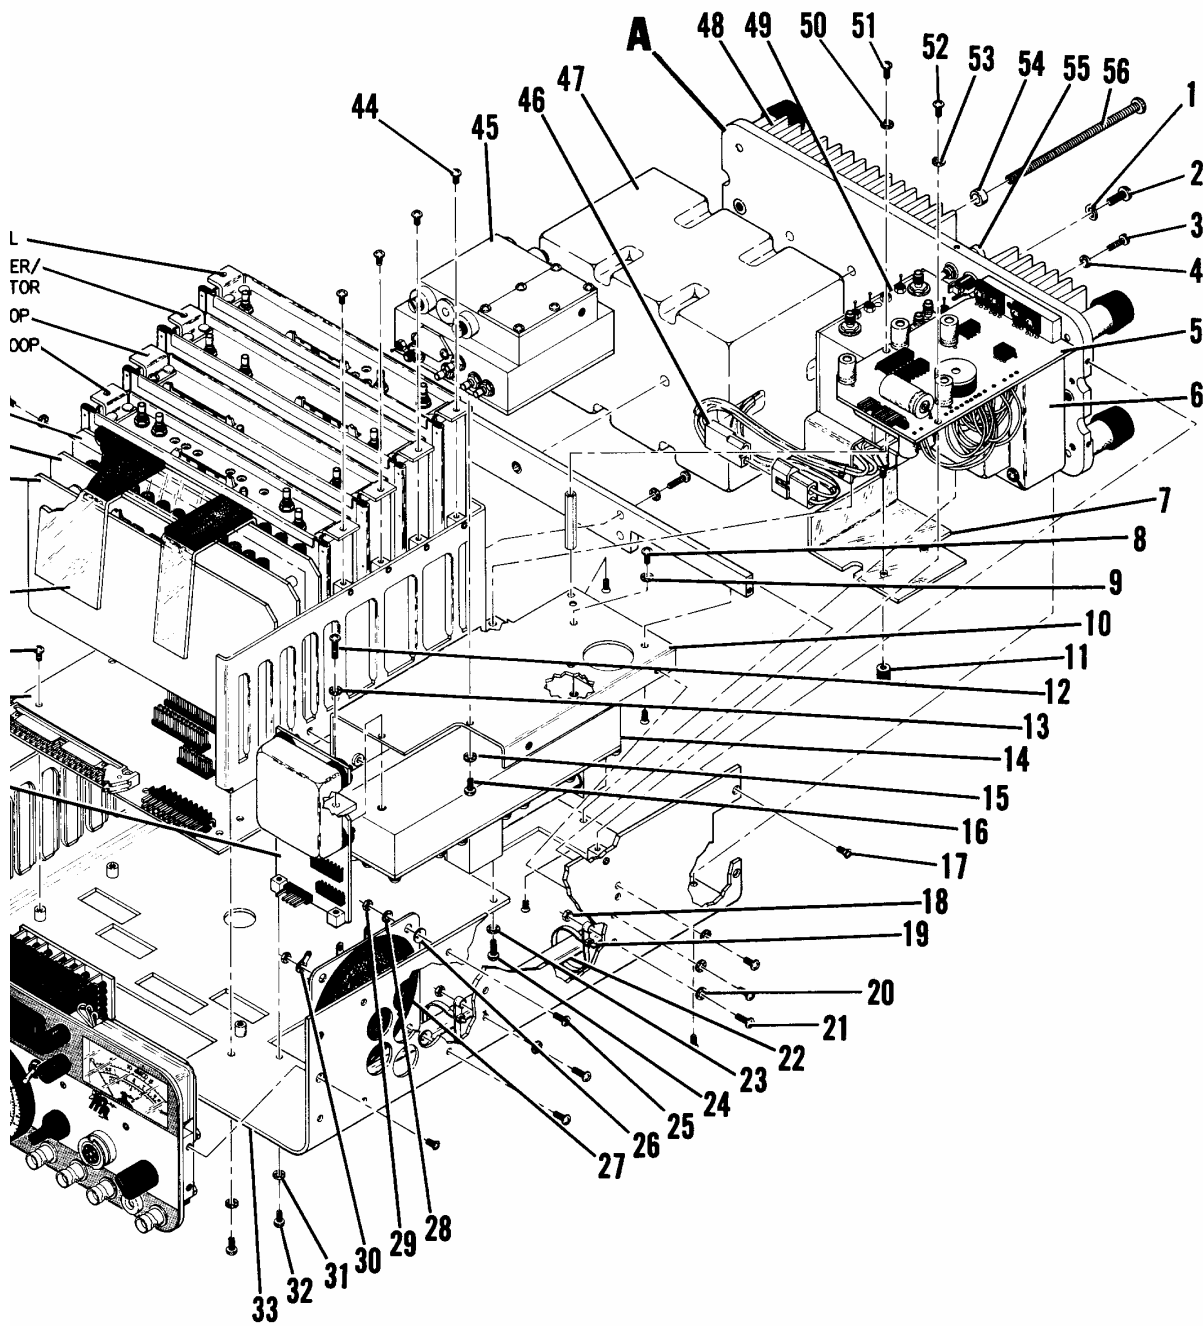

Figure 6-2 FM/AM-500A Composite Assembly
This section contains instructions that are necessary to remove and disassemble modules within the FM/AM-500A. Case removal (para. 6-2-1) is a prerequisite for all module removals. Most module removals are reflected in Figure 6-2, Composite Disassembly. However, due to the complexity of the composite, further details of module disassembly are shown on individual disassembly drawings for specific modules.
A. Removal (Figure 6-2)
A. Removal (Figure 6-2, Detail A)
1. Disconnect Wire Harness Connector and coax connector from oven oscillator (62).
2. On test sets which have the oscillator (62) mounted on a bracket (61), remove two screws (57) and lock washers (58), withdraw the oscillator and bracket from the compartment, then remove four screws (59) and lock washers (60).
3. On test sets which have the oscillator (62) mounted directly on the chassis (33), remove four screws (59) and lock washers (60), then remove the oscillator.
1. Remove two screws (32) and lock washers (31) attaching PC board assembly (38) to bottom of chassis (33).
2. Remove screw (12) and lock washer (13) attaching PC board assembly (38) to inner mounting bracket (10).
3. Withdraw PC board assembly (38) from chassis (33) and disengage wire harness plug from PC board.
4. Three flexible coax cables are permanently attached to the Frequency Standard (38). Disconnect these from High Loop Synthesizer and Digital Modules (43), and the External Standard jack (55).
1. Remove screw (3) and lock washer (4) attaching PC board assembly (5) to Rear Panel (48).
2. Remove two screws (51 and 52) and lock washers (50 and 53) attaching PC board assembly (5) to chassis (33).
3. Disengage wire harness connector from PC board (5).
1. Remove Dual VCO (14) (paragraph 6-2-13).
2. Remove screw (21), lock washer (20) and nut (18) attaching wire tie(s) (19) mounting Filter (22) to chassis (33).
3. Disconnect flexible coax cables from each end of Filter (22) and withdraw filter from chassis (33).
2. Remove 1120 MHz Low Pass Filter (22) (paragraph 6-2-6).
3. Tag and unsolder wires from two terminals on Speaker (27).
4. Remove four nuts (29), three lock washers (28), one terminal lug (30), four compression washers (26) and four screws (25) attaching Speaker (27) to chassis (33). Lift Speaker from chassis.
6-2-8 MOTHER BOARD (39) (Figure 6-2)
1. Remove Audio PC boards (42) (paragraph 6-2-9).
2. Remove Enclosed Modules (43) (paragraph 6-2-10).
3. Remove Front Panel (35) (paragraph 6-2-15).
4. Tag and unsolder wires in wire harness (not ribbon cables) from Mother Board (39).
5. Remove four screws (40) attaching Mother Board (39) to chassis (33).